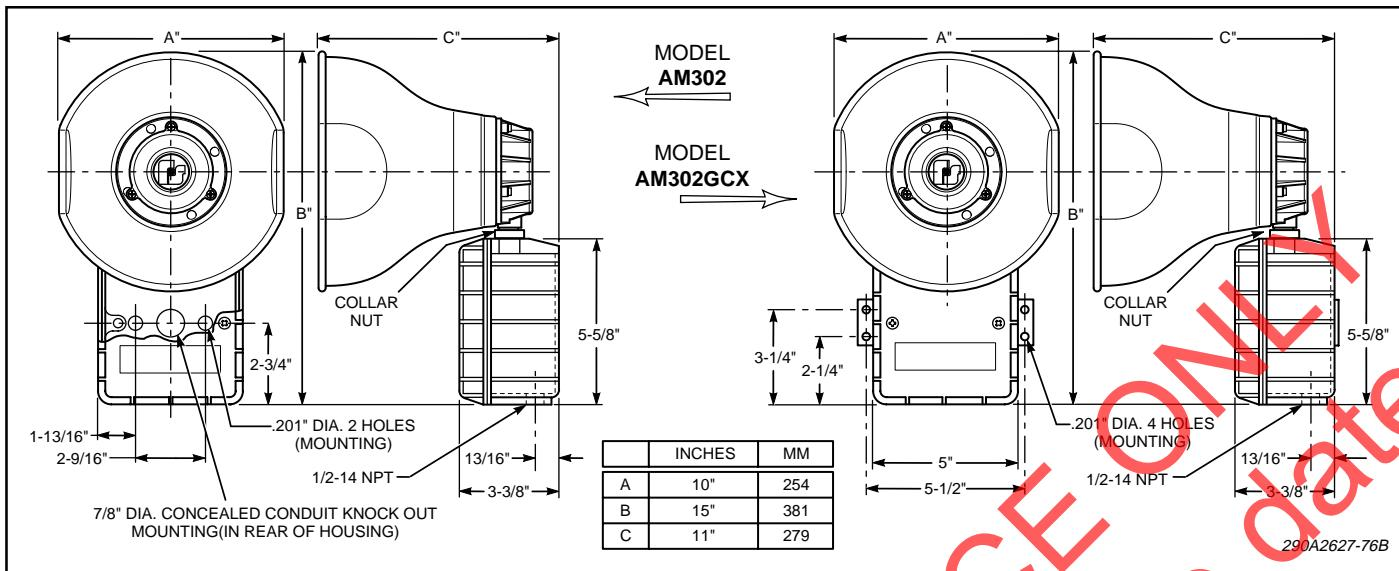

Figure 1. Models AM302 and AM302GCX Speaker Dimensions.
#### B. Mounting Arrangements (see figure 1).
- Using the mounting holes (two (2) inside the Model AM302's housing or four (4) in the AM302GCX's external mounting bracket) as a template, scribe drill position marks on the mounting surface. See figure 1 for mounting hole locations and dimensions.
- Reposition speaker projector if necessary to obtain desired sound coverage. Loosen collar nut (see figure 1) and move projector to desired position.
- Using the two (2) mounting holes as a template, scribe drill position marks on the mounting surface. See figure 1 for mounting hole locations and dimensions.